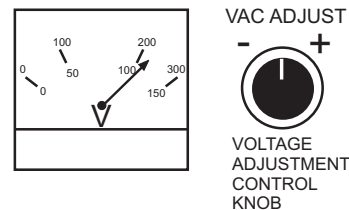

Figure 24. Voltage Meter/Adjustment Control Knob
- The generator's voltage meter (Figure 24) displays the 120 VAC in **VOLTS**. If the voltage is not within the specified frequency tolerance, use the voltage adjustment control knob to the right of voltage meter to bring the voltage within range.